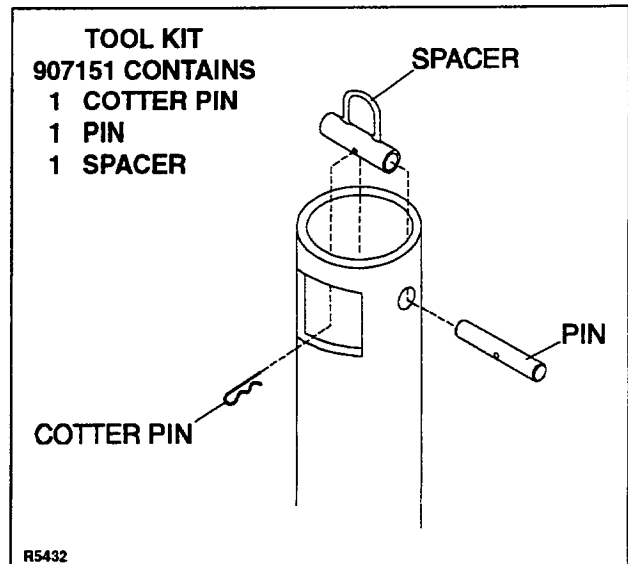
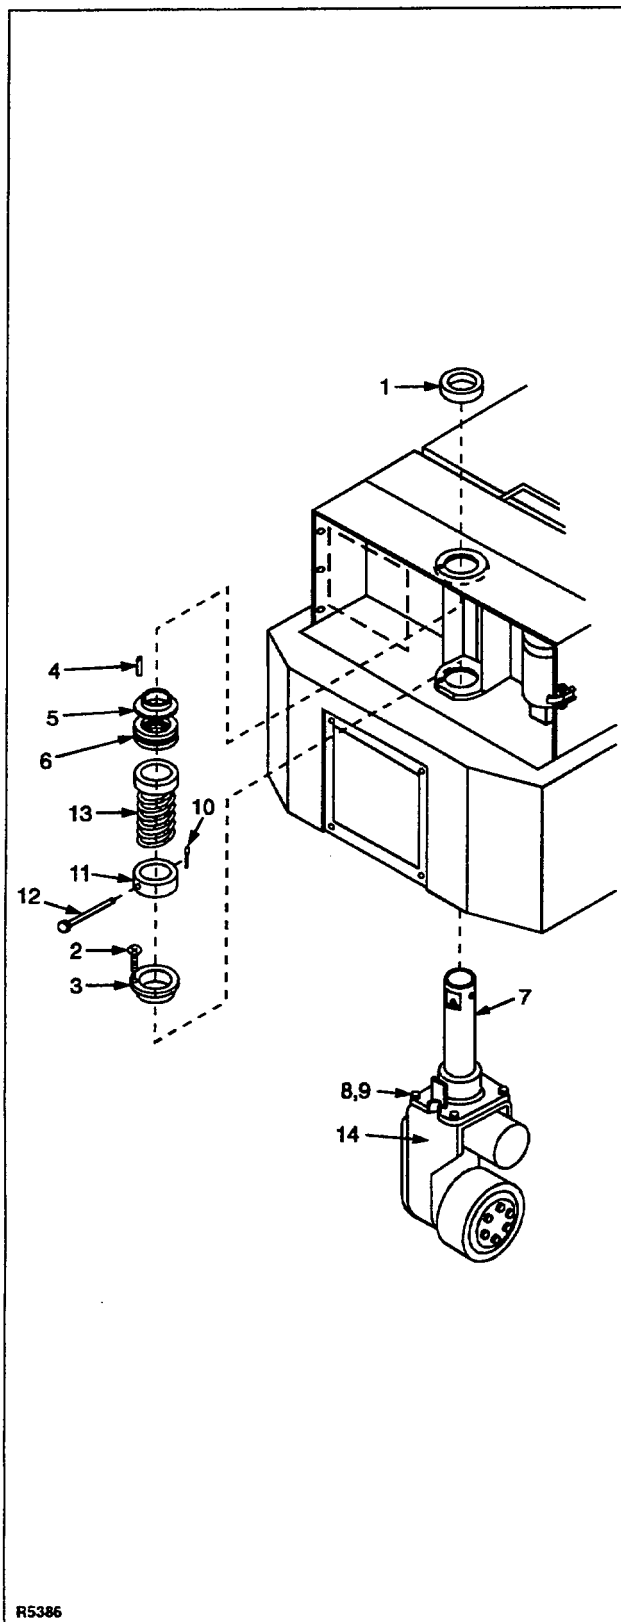

Figure 5-7. Pivot Tube Removal Tool
Figure 5-8. Pivot Tube Bushing Replacement
2. Position a support under pivot tube (7, Figure 5-8).
4. Remove pivot cap cover (21).
6. Remove pivot cap (3) and spacer (1, Figure 5-8).
- a. For trucks serial numbers 333328 to 346721, 346723 to 346750, 346752 to 346926, 346928 to 346934 and 346936, use the two pivot cap cover screws (22) as a means of attachment for the chain hoist. Secure the chain hoist to the pivot tube.
- b. For trucks serial numbers 346722, 346751, 346927, 346935, 346937 and higher, use **tool kit part number 907151**. Position spacer, Figure 5-7, inside the pivot tube. Insert the pin through the support tube and secure with the cotter pin. Attach chain hoist to the spacer.
9. Remove cotter pin (10, Figure 5-8) and pull out spring support pin (12).
NOTE: When installing the new parts, refer to Figure 5-8 to be sure they are positioned on the pivot tube in the proper order.